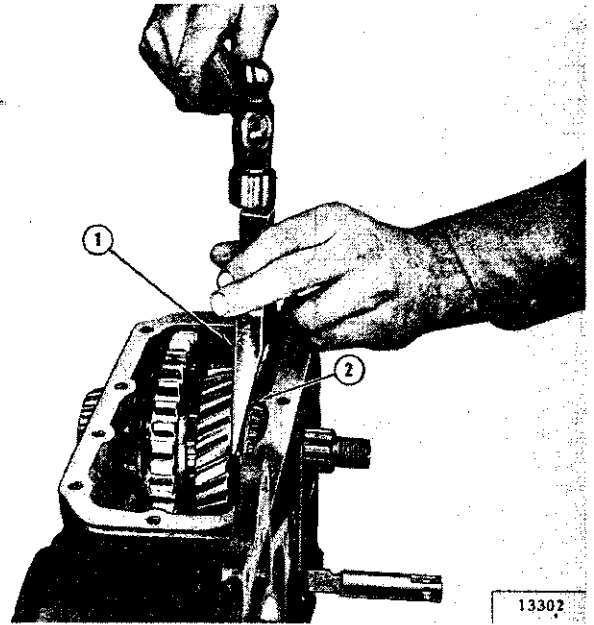
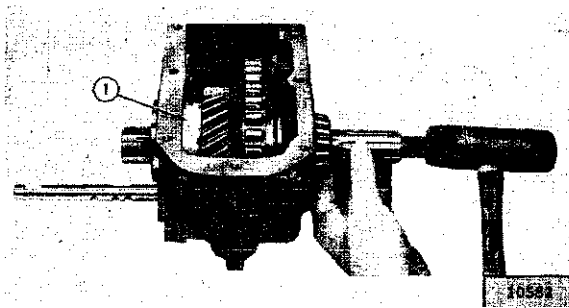

FIG. K-5—BEARING CONE REMOVING WEDGE
FIG. K-6—BEARING CUP REMOVING RING
i. Use a rawhide hammer to drive against the front end of output shaft to drive the rear bearing cup from the case. Use Tool W-139, as shown in Fig. K-5, to wedge front bearing cone and roller assembly from its seat on the shaft. Place Tool W-141, Fig. K-6, on the output shaft between the front bearing and output shaft gear. Use a rawhide hammer to drive against the rear end of the output shaft to remove front bearing cup from the case. Loosen snap ring and slide it forward on the shaft. Drive the shaft thru the rear of the case. As the shaft is removed, gears, snap ring, and thrust washer will remain in the case and can be removed from